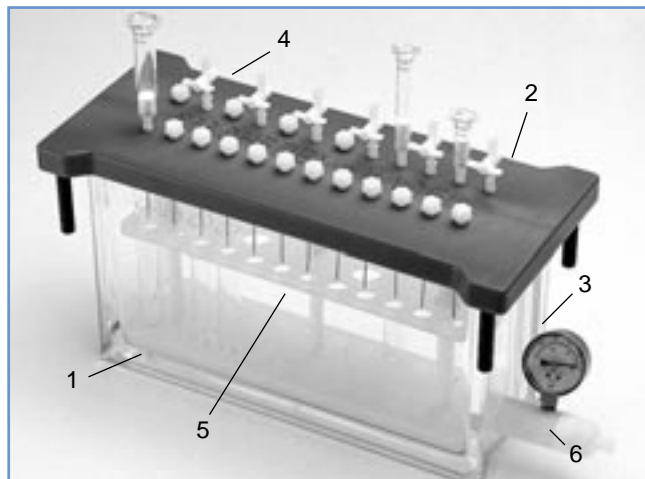

Figure 1: vacuum manifold for up to 24 columns
We supply such manifolds (figure 1) for up to 12, 16 or 24 CHROMABOND® columns or CHROMAFIX® cartridges, respectively. The manifolds consist of rectangular glass cabinets (1) with vacuum gauge (3) and a polypropylene lid (2), which can hold the columns or cartridges. The replaceable valves (4) on the lid allow individual vacuum control for each solid phase extraction column, if required. The cabinet is fitted with a variable rack (5) with exchangeable partitions, which accept a wide variety of vessels like test tubes, measuring flasks, scintillation vials, autosampler vials, plastic vials and many more. With the control valve (6) the vacuum in the chamber can be adjusted and read from the gauge.